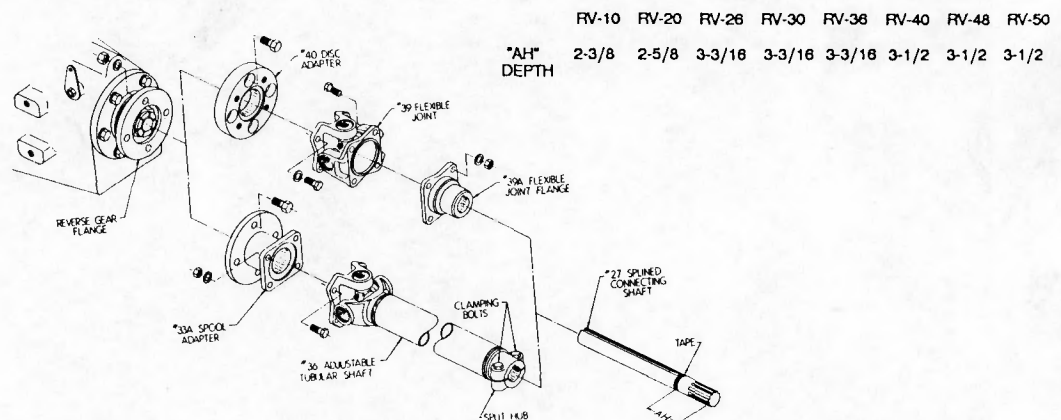

FIG. 2
- Slip the #27 Splined Connecting Shaft into the internal spline of the V-Drive to the proper "AH" Depth (SEE CHART in FIG. 2). Wrap a piece of tape around the shaft at the proper length before installation to ensure the correct length of the shaft going into the V-Drive. If the shaft does not go into the V-Drive far enough, the spline of the shaft can ride on the #24A Oil Seal and/or #24E O-Ring and an oil leak may develop. If the shaft goes into the V-Drive too far, it will preload the #26 Self-Aligning Bearing and may cause premature failure of this bearing.
SHORT INSTALLATIONS WITH #39, #39A FLEXIBLE JOINT ASSEMBLY (SEE FIG. 2)
LONG INSTALLATIONS WITH THE #36 ADJUSTABLE TUBULAR SHAFT (SEE FIG. 2)